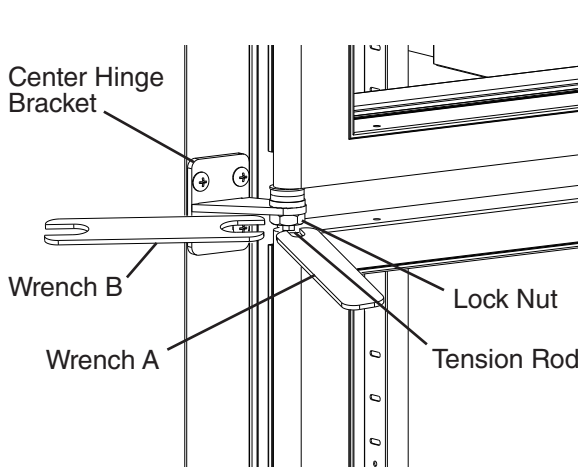

Fig. 69
- 23) Place wrench B on the tension rod and rotate counter-clockwise to add tension to the tension rod. Without releasing the pressure on wrench B and the tension rod, use wrench A to tighten the lock nut. See Fig. 69.